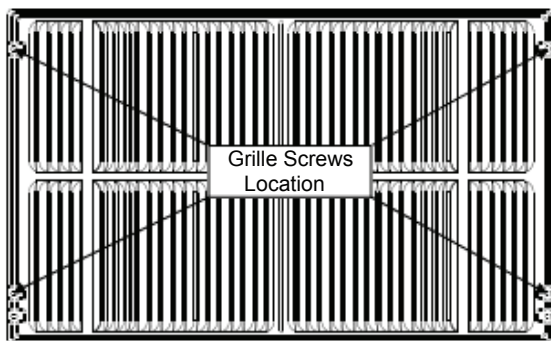
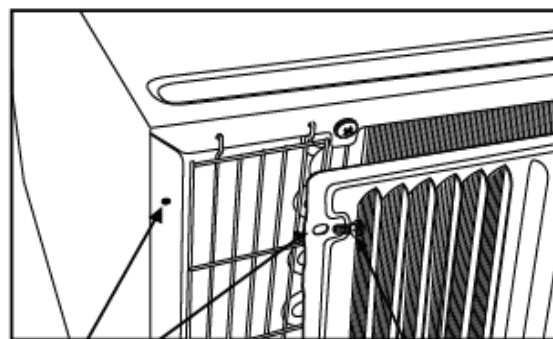

Fig. 2
Fig. 3
4. If the unit has not been pre-drilled (some models), carefully drill 4-1/8" holes through the grille and into the side flange of the unit approximately 1 1/2" to 2" from the top and bottom as in Fig. 2 and Fig. 3. (Be careful not to drill into copper heat exchanger coils).